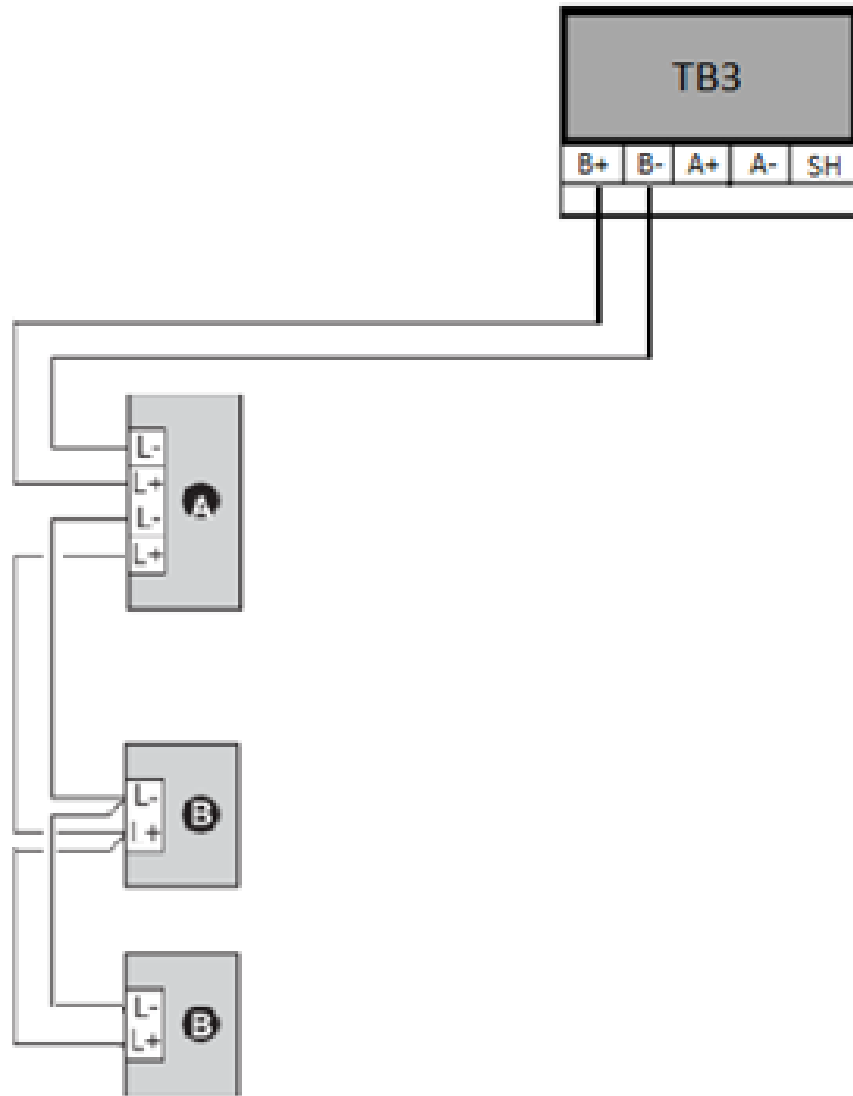

Figure 10: Class B wiring
3. Route the wiring from the first device to the next as in and out, repeat this step for each device. See Figure 10.